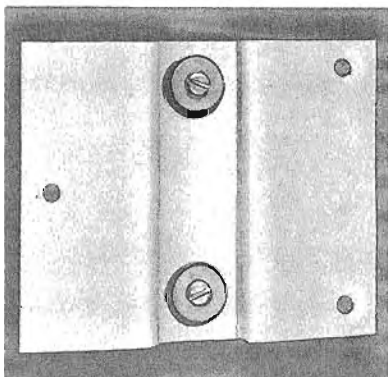

Figure 8
6. Fasten mounting bracket to transom with 2 wood screws. (Figure 8) Be sure 2 mounting screws are in vertical position.